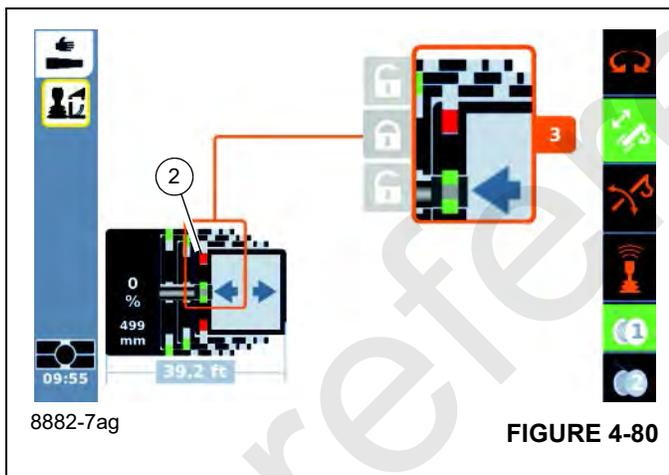

FIGURE 4-80
Confirm the selection – the section locking pins will retract. Symbol (2), (Figure 4-80) red.
If symbol (2), (Figure 4-80) is not red after approximately 10 seconds, this means that the locking pins are under load.